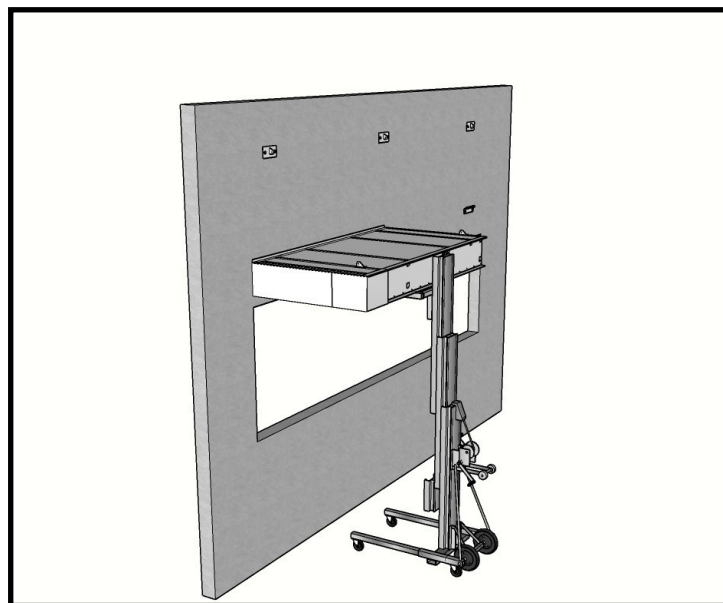
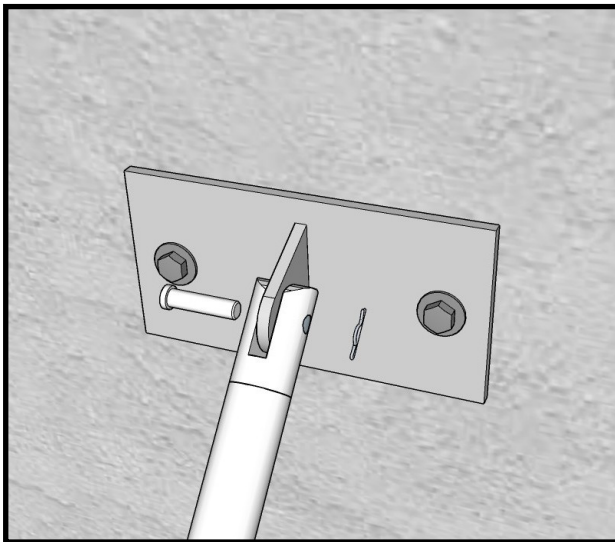

Fig 6
Fig 7
6. Attach Tie-back (#4) to Upper Clevis Bracket (#1) with a clevis / bridge pin (Fig 6). Attach the Lower Clevis Rod End (#5) to the bottom end of the Tie-back. Attach the Lower Clevis Bracket (#7) to the Lower Clevis Rod End (#5) and insert the Clevis / Bridge pin (Fig 7).